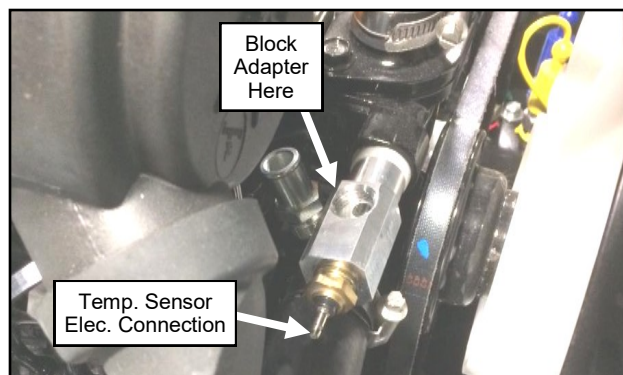

Figure 17.9 (Sending Unit Install)
- 17.9 Using the (3) supplied nylon washers as needed to seal the sending unit and have the threaded section point up as shown on figure 17.9.
- 17.10 Re-install brass washer and temperature sensor into the backside of the sending unit adapter per figure 17.9.